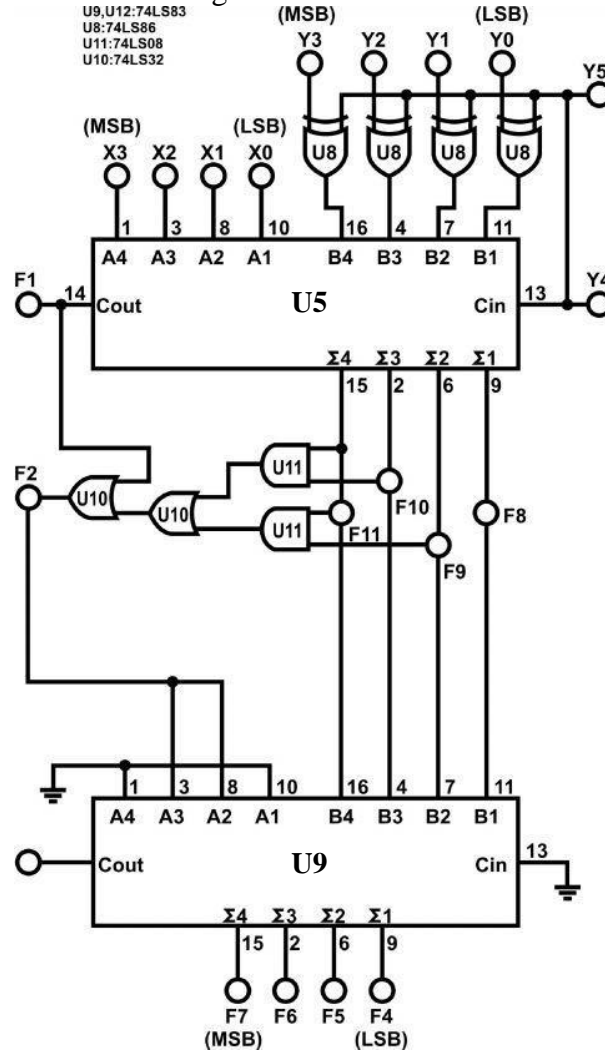

Figure 2.20: Wiring Diagram (KL-33004 BCD Adder).
- a) The circuit shown in Figure 2.20 will act as a BCD adder.